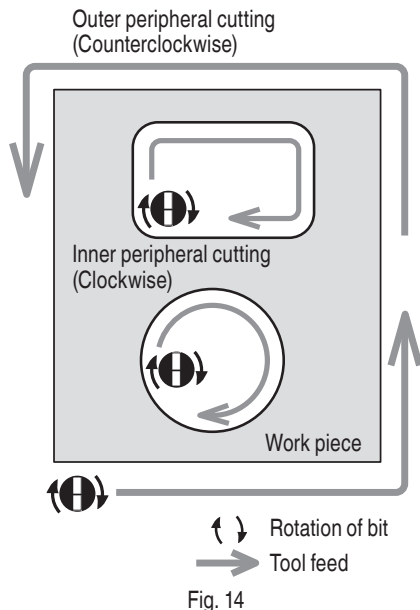

Fig. 14
- (1) Keep the bit separated from the workpieces and hold the body firmly before switch is turned on.
- (2) The bit rotates clockwise (arrow direction indicated on the base ass'y). To obtain maximum cutting effectiveness, feed the tool in conformance with the feed directions shown in Fig. 14.